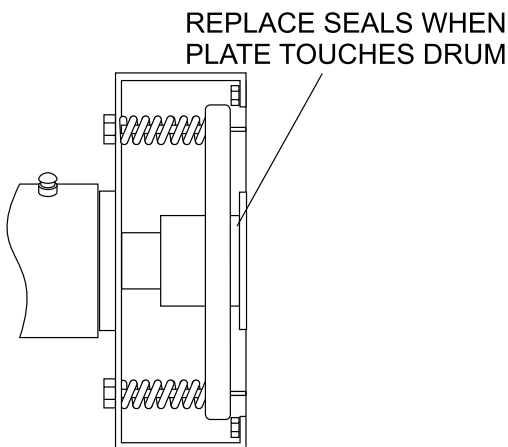

Figure 37. Replacing Drum Seals
3. Once the pressure plate touches the drum, its time to replace the graphite seals (Figure 37).